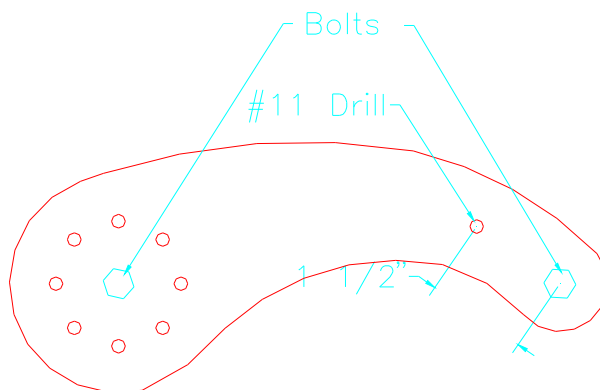

Figure 10.14.8
17) Drill a #11 hole through both parts approximately 1 1/2" from the end hole. Remove temporary bolts. Mark and store matched horn. Store the drilled horn. Deburr parts, chromate mating surfaces and rivet previously fitted root control horn and associated parts with sixteen 3/16" x 3/8" SS rivets (RV-5606). Figure 10.14.8.